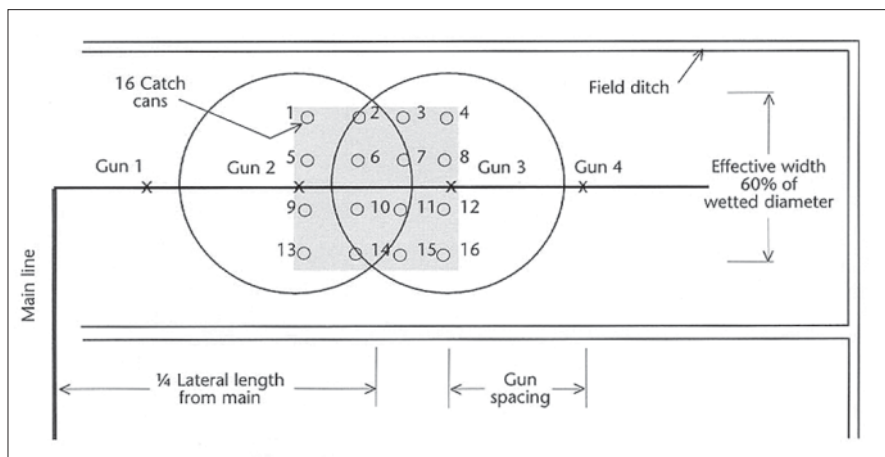

Figure 36-9. Collection container layout to calibrate one lateral of sprinklers or volume guns with no overlap between laterals.
One lateral operating with no overlap between laterals. A typical case when large-volume gun sprinklers are operated in narrow fields or smaller irrigation systems that use single laterals of impact sprinklers (Figure 36-9). The procedure must be repeated for each gun/sprinkler or sprinkler position (hydrant) contributing to the effective area being calibrated. This operating situation results where one or two guns are moved from hydrant to hydrant throughout the field or when a single row of impact sprinklers are operated where they do not overlap another sprinkler. Since stationary big guns should not be operated “head to head” (two or more sprinklers throwing water on the same area simultaneously), two adjacent guns must be operated individually to complete the calibration.
A general rule in irrigation design is to assume that the width of the effective area is between 50% to 65% of the wetted diameter of the sprinkler (often 60% is used). The first calibration approach accepts this design guideline that the effective width of the lateral is 60% of the wetted diameter of one sprinkler. As Figure 36-9 shows, 16 gauges are set out (eight gauges on each side of the lateral) with all 16 gauges positioned within the effective sprinkler width. The outer edges are ignored at the onset of the calibration. Flow from all sprinklers is assumed and then averaged to compute the average application depth for the effective area.
Single lateral or gun sprinkler with no overlap from adjacent laterals (scenario shown in Figure 36-9).
4. As Figure 36-9 shows, set out gauges in a rectangular grid pattern, spaced at the distances determined in Item 2. Be sure to label gauges by rows (rows should be oriented parallel to and outward from the lateral line). The first row of gauges should be located 1/2 of the gauge spacing from the lateral.